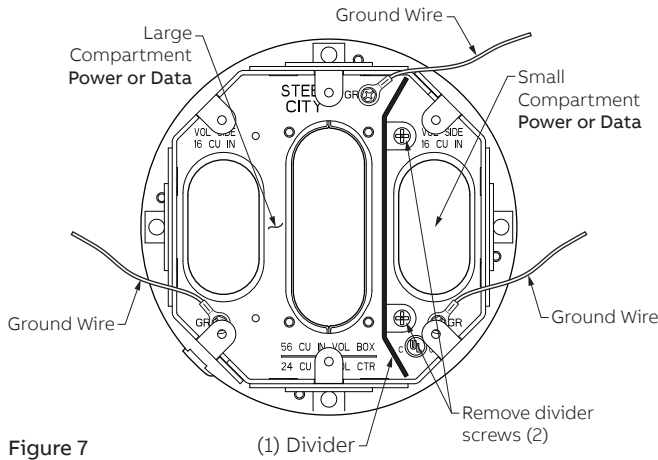
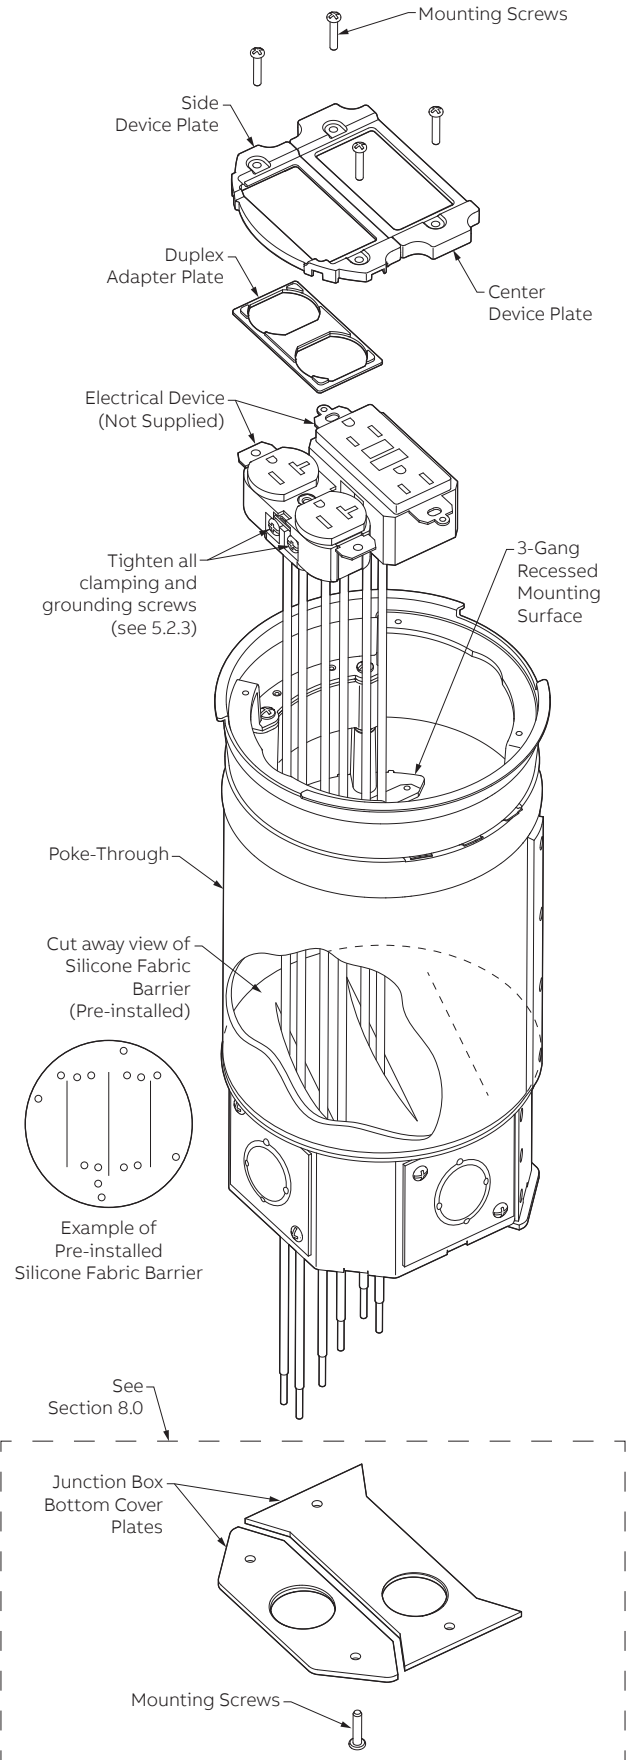

Figure 7
Figure 13
Remove the two screws (Figure 7) securing the divider and remove divider from Junction Box allowing (2) compartments to share a combined space. A conduit connection is required for each compartment that will be powered. Use large or small compartment for Power or Data.
Electrical Devices may be installed BEFORE or AFTER Poke-Through is inserted into hole. Figure 13 shows Electrical Devices being installed BEFORE inserting Poke-Through into hole. For illustration, Figure 13 shows (2) gangs using Electrical Devices. (See Figure 7 Junction Box Configuration.) THHN electrical wire and electrical devices are not furnished with Poke-through.
- 5.2.3 Attach a HOT, NEUTRAL and GROUND wire to each electrical device. Confirm all used and un-used screws (clamping and grounding) are tight against electrical device body (See Figure 13).
- 5.2.4 Locate the Gang (compartment) that corresponds to Junction Box configuration (See Section 4.0) and feed device(s) and wires down through top of Poke-Through, through Silicone Fabric Barrier, and into Junction Box (See Figure 13).